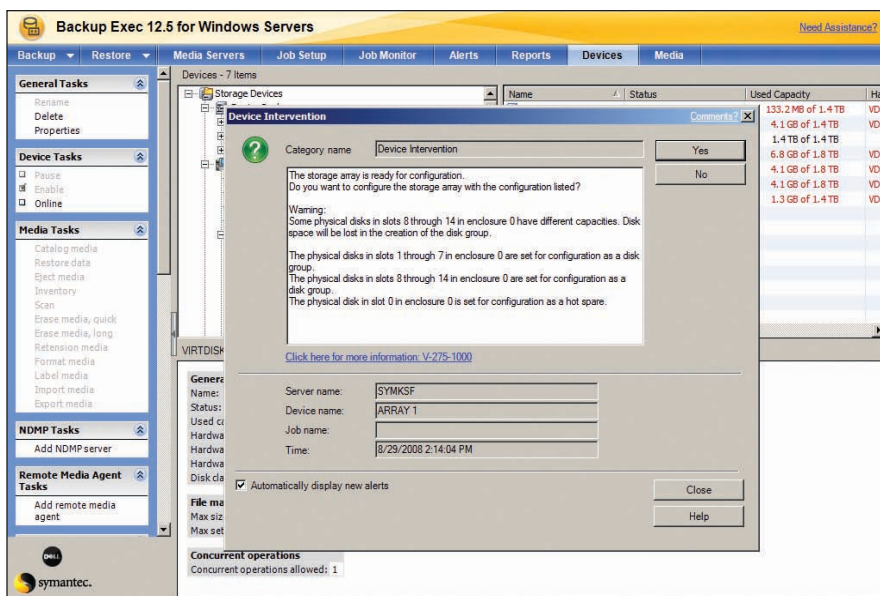

Figure 1. Symantec Backup Exec can automatically recognize new storage devices and help simplify setup
- **Simplified disk management:** Integrated hardware and software management capabilities provide a simplified way to manage disk resources alongside backup and restore operations. Backup Exec can automatically discover, provision, manage, and enable disk resources as targets for backup and restore operations (see Figure 1).